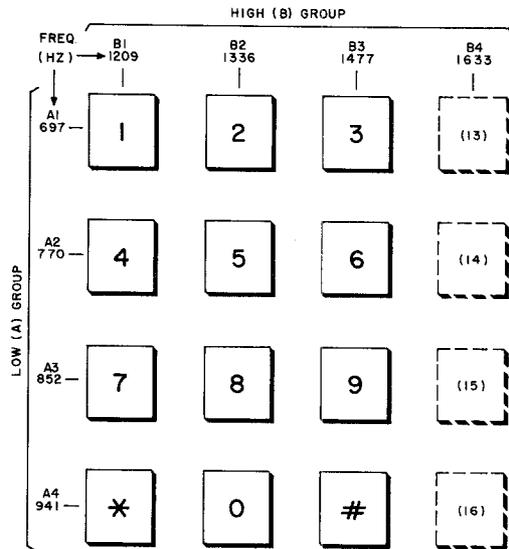

Fig. 7—Touch-Tone Dial Frequency Assignments
3.05 The JU2 CP is the receiver portion of the data set and accepts a two-out-of-eight Touch-Tone transmission code. The transmission code consists of two groups of frequencies, a low group and a high group, each containing four frequencies. These frequencies are grouped and designated as shown in Fig. 7.
3.06 The receiver detects the Touch-Tone signals at a maximum rate of ten characters per second. A character consists of one frequency from each group shown in Fig. 7. Therefore, the two-out-of-eight code provides 16 different frequency pairs (characters). Data set 407-type recognizes all of these characters.